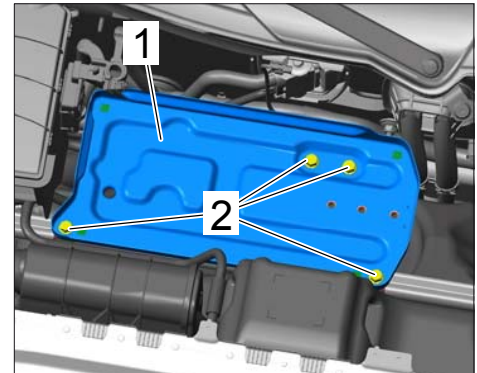

Figure 52
- 9.1 Plug in connector for the fuel pump control unit at the underside of the battery console ⇒ *Figure 52* -**1**- until it engages securely.
- 9.2 Tighten fastening screws ⇒ *Figure 52* -**2**- for the battery console to the specified tightening torque. **Tightening torque 23 Nm (17 ftlb.)**